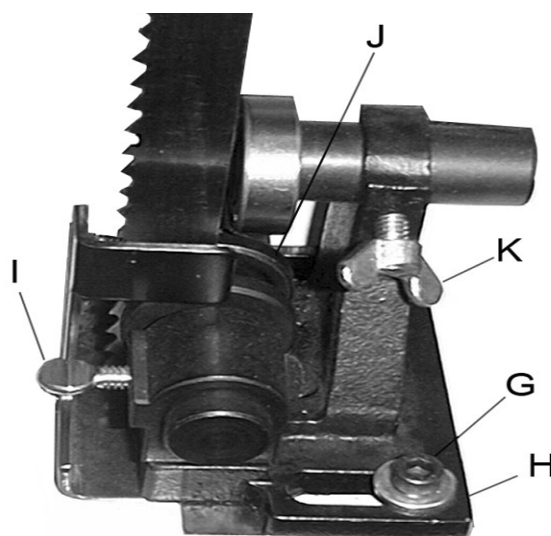

Figure 4
2. The blade guard has been removed in Figure 4 for photo purposes only.
3. Loosen the socket head cap screws (G, Fig. 4) and position the blade guide assembly (H, Fig. 4) so that the guides rest just behind the gullet of the blade teeth. Tighten the socket head cap screws.
4. Loosen thumb screw (I, Fig. 4). Adjust guides (J, Fig. 4) so they rest lightly against the blade. Do not force the guide against the side of the blade. Tighten thumb screw.
5. Adjust the blade support bearing so that it is 0.003" away from the back of the blade, about the thickness of a piece of paper. To make this adjustment loosen wing nut (K, Fig. 4) and slide the bearing and bearing post into position. Tighten wing nut.
Note: Blade support bearing should be adjusted so that the back edge of the blade overlaps the front face of the ball bearing by approximately 1/8". If adjustment is needed loosen wing nut (K, Fig. 4) and turn the bearing shaft. Tighten wing nut.